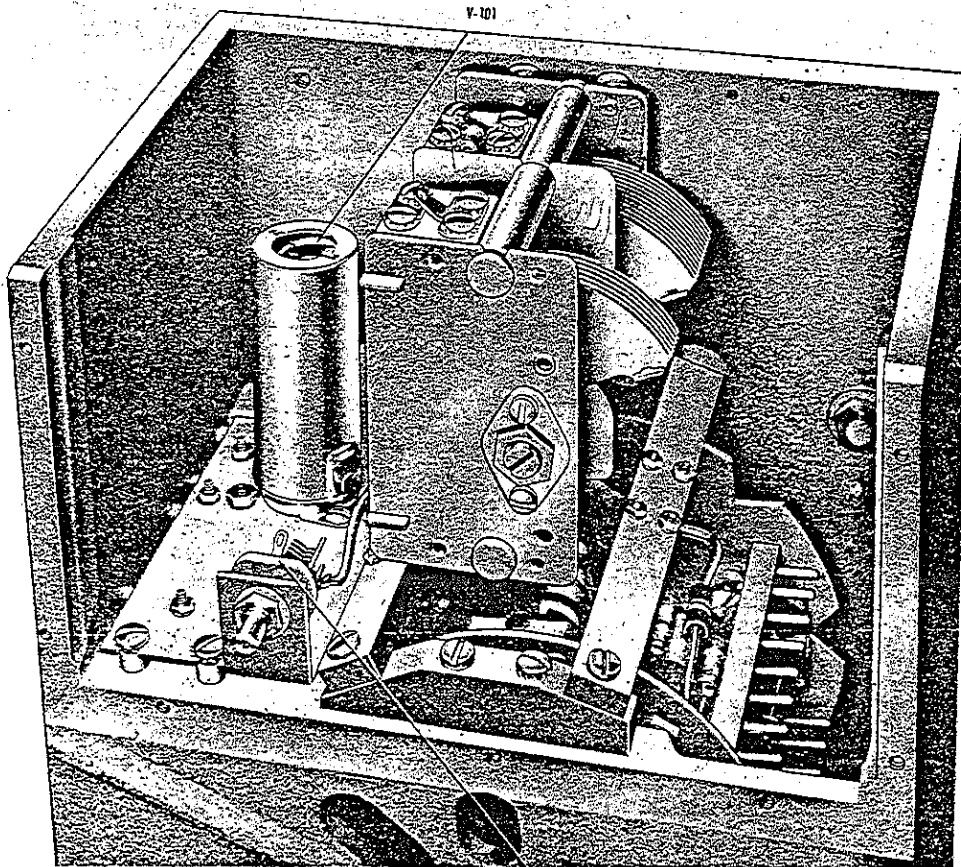

Figure VI-2 Oscillator compartment showing tube and calibration adjustment capacitor
is required to retain the full accuracy of the instrument. The procedures are described in this section. All components which require adjustment are shown in Figures VI-2 and VI-3.
a. Remove the nine screws which hold the cover in place on the oscillator compartment (Figure VI-2). It is suggested that the frequency control be turned clockwise so that the main variable oscillator capacitor is fully meshed to avoid accidental bending of the plates.
f. Carefully adjust C-129 (Figure VI-2) until a zero beat is heard in the calibrator headset.